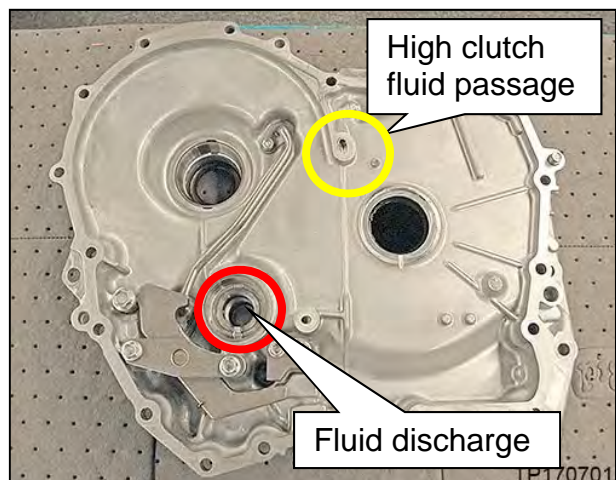

Figure 116
- To avoid the risk of minor personal injury, take care when cleaning passages as brake cleaner will exit the passage shown as “fluid discharge” in Figure 116.